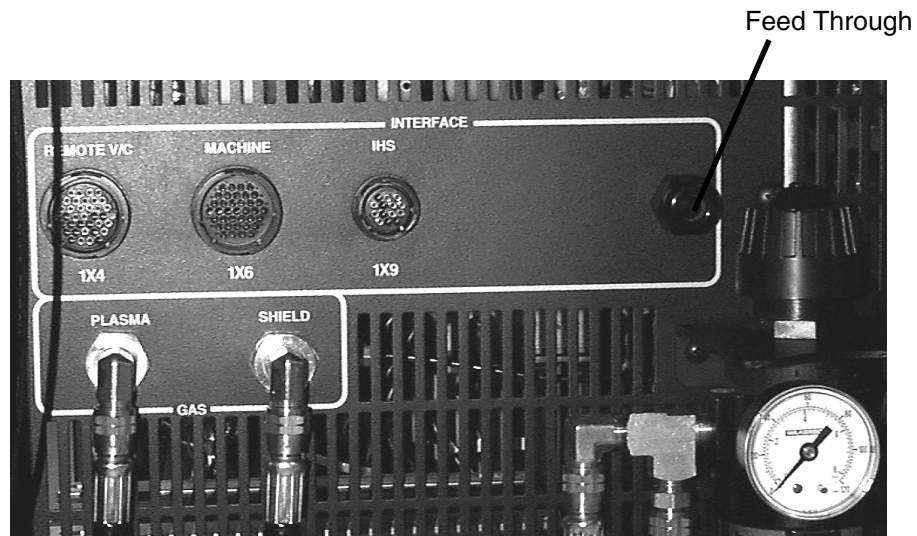

Figure 1 Remote Switch Feed-Through Location
3. Route the remote switch cable through the feed-through at the rear of the power supply. See Figure 1.